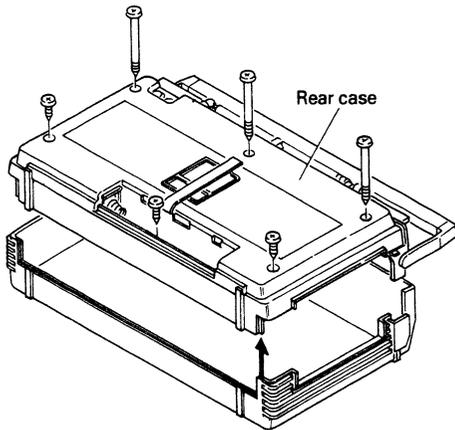

Fig. 6
2. Unscrew the six screws which hold the rear case (one of these screws is inside the battery compartment). The bottom of the rear case may be slid, and so to remove it, push down from above. (Fig. 6)